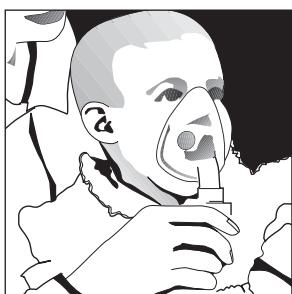

Figure 8
11. If an aerosol mask is used, place the mask over mouth and nose (Fig. 8). As aerosol begins to flow, inhale deeply and slowly through mouth, then exhale slowly.